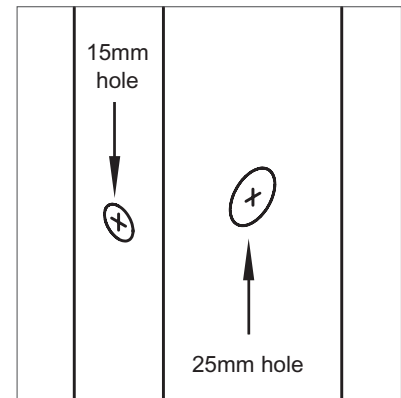

Fig 1.0
- Install a temporary cable from the isolating switch flush box to the 15mm exit hole in the wall framing, see Fig 1.0